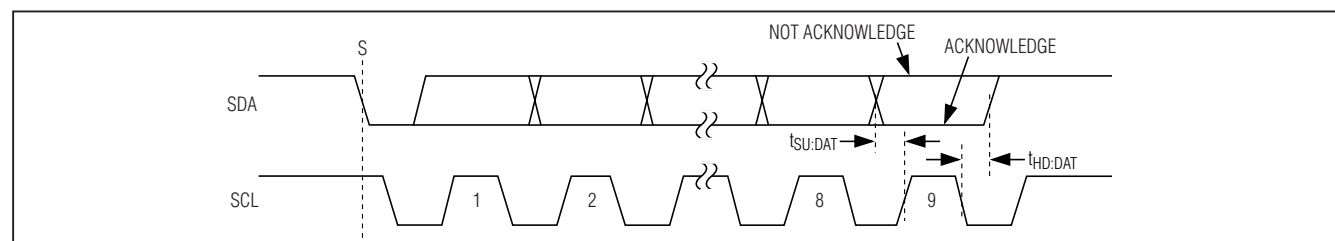

Figure 9. Acknowledge Bits
Both the master and the MAX8660/MAX8661 (slave) generate acknowledge bits when receiving data. The acknowledge bit is the last bit of each 9-bit data packet. To generate an acknowledge (A), the receiving device must pull SDA low before the rising edge of the acknowledge-related clock pulse (ninth pulse) and keep it low during the high period of the clock pulse (Figure 9). To generate a not acknowledge (A), the receiving device allows SDA to be pulled high before the rising edge of the acknowledge-related clock pulse and leaves it high during the high period of the clock pulse.